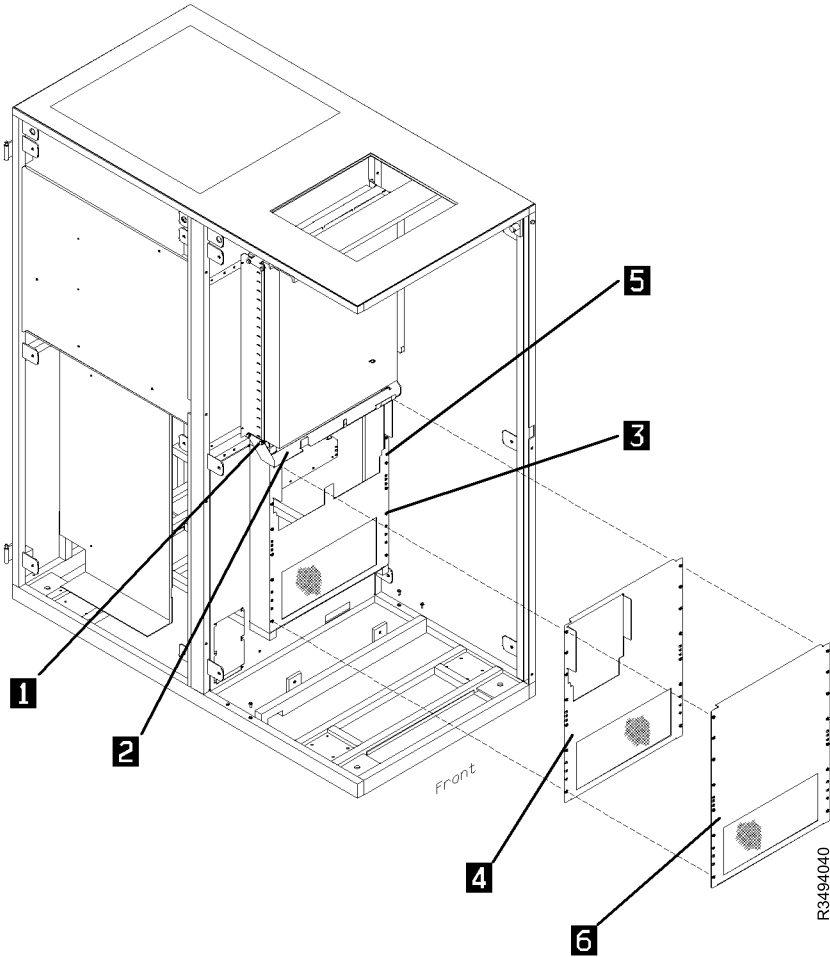

Figure 6-30. Change Drive Cover Plate
**See Figure 6-30 on page 6-52 when performing the following steps.**